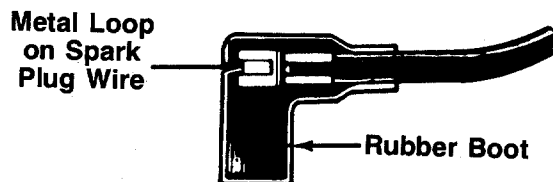

FIGURE 20.
2. Attach spark plug wire to spark plug. Make certain the metal loop on the end of the spark plug wire (inside the rubber boot) is fastened securely over the metal tip on the spark plug. See figure 20.